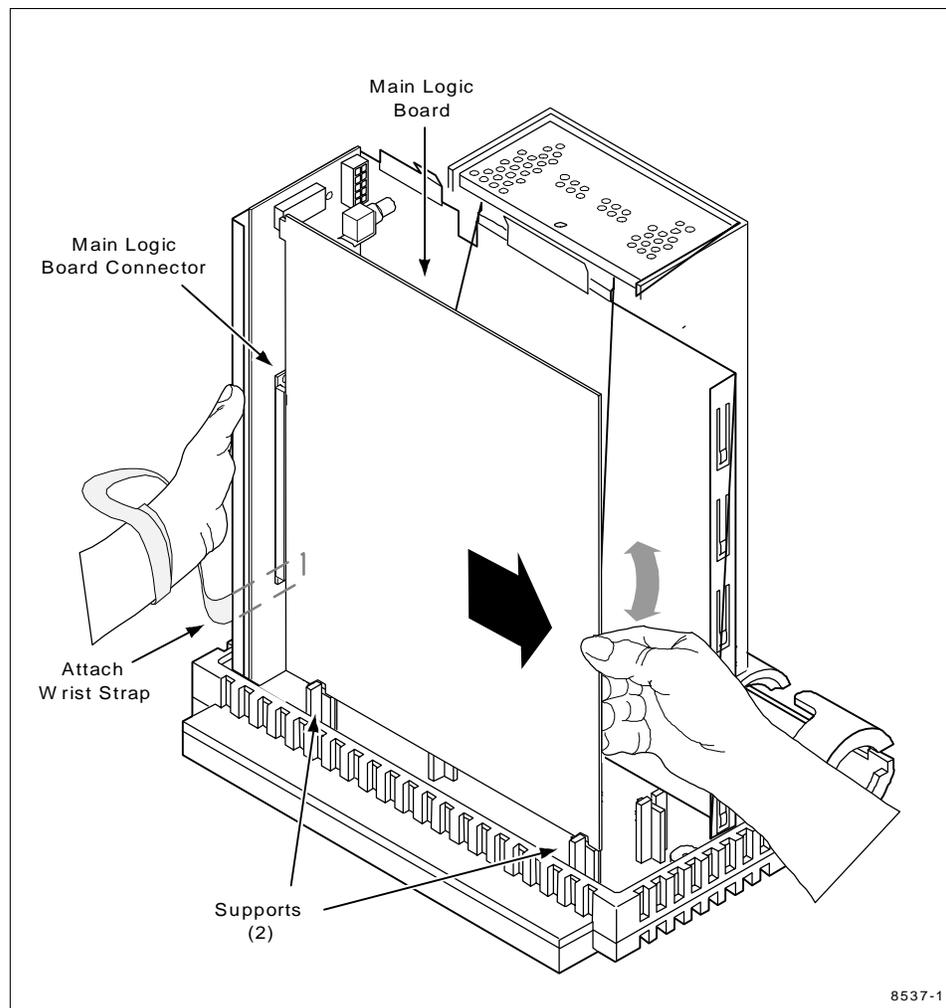

Figure 3. Removing the Main Logic Board from the Tower Cabinet
2. Put on an anti-static strap following the instructions that come with it. Attach the adhesive end to the side of the metal chassis (see Figure 3). Spread an anti-static pad on your work surface.
3. Unplug the Main Logic board. Gently rock the board up and down while pulling on it as shown by the arrows in Figure 3.